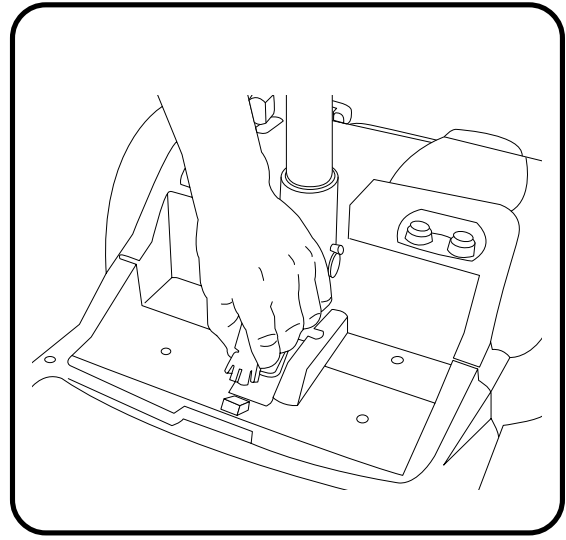

Figure 14. Front-To-Rear Harness
4. Unplug the front-to-rear harness. **See figure 14.**